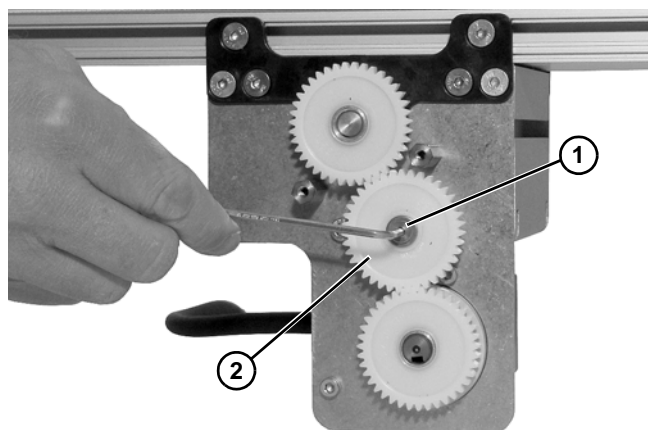

Figure 4
2. Remove screw (**Figure 4, item 1**) and washer from gear (**Figure 4, item 2**).